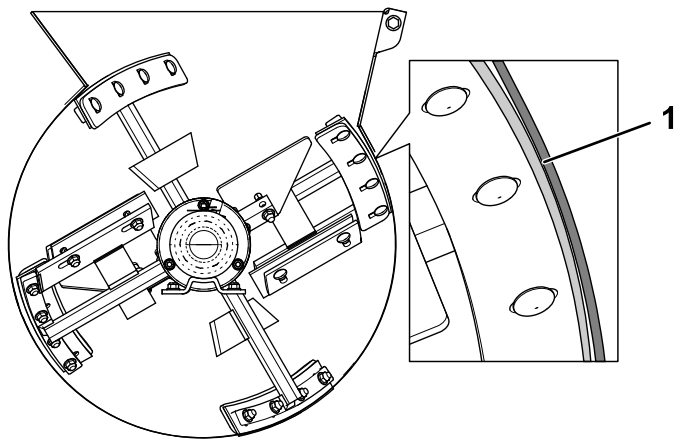

Figure 73
5. Adjust the position of the wiper so that the wiper lightly contacts the drum across the length of the wiper (Figure 73).